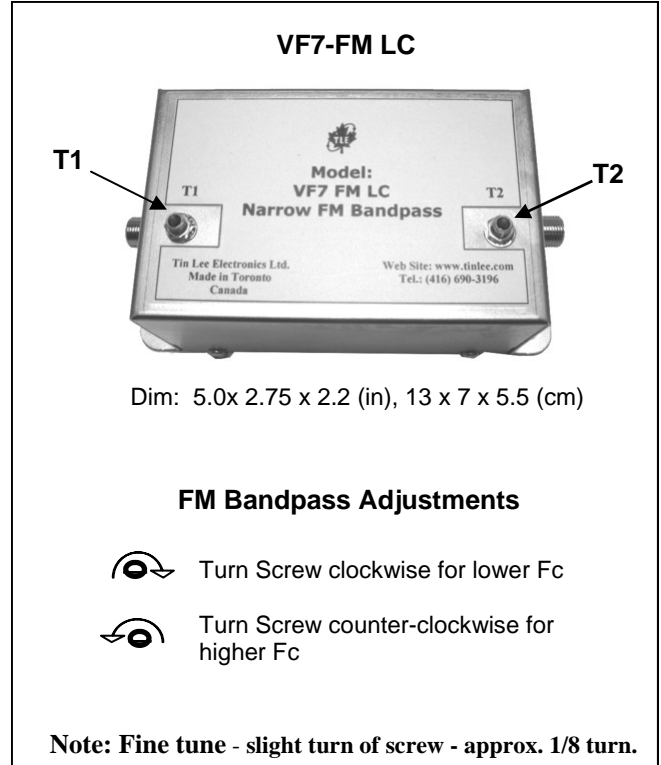

Fig.1, Example VF7-FM LC tuned to 98 MHz shows typical Thru Loss, Rejection points at 20dB and 40 dB
- Selectivity: >20dB rejection at Fc ± 3 MHz (see fig.1)